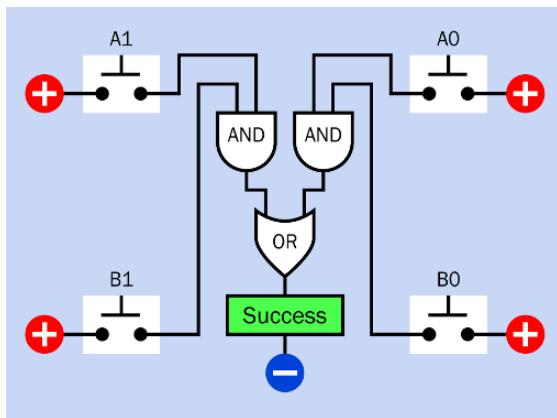
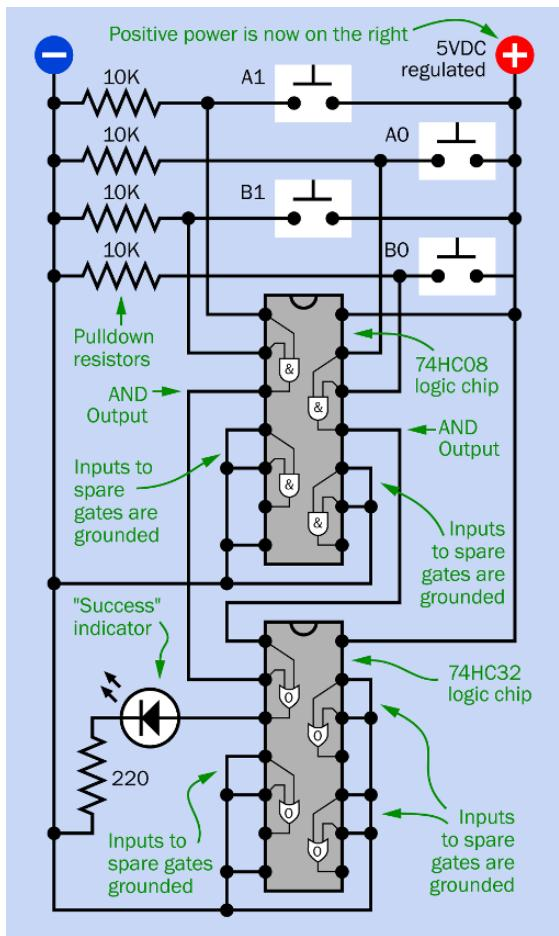

Figure 15-2. These logic gates will activate a "success" indicator if A0 and B0 are both pressed, or if A1 and B1 are both pressed.
Figure 15-8. This schematic shows the simplest breadboardable version of the ESP test.
Figure 15-2 shows how AND and OR logic gates can be used with the pushbuttons to confirm that a trial has been successful.
- A logic diagram is not the same as a component schematic. In a logic diagram, such as the one shown in Figure 15-2, power supplies to logic gates are not usually shown, and pullup or pulldown resistors are also omitted. In a component schematic, chips with pin connections are shown instead of logic gates, and all necessary power connections are included.
The concept of Figure 15-2 is very simple. It can be summarized in this sentence:
The schematic that corresponds with the logic diagram in Figure 15-2 is shown in Figure 15-8. I have squeezed some miniature representations of the gates into the chips to show what's going on. “&” denotes an AND gate, while “O” is an OR gate. (These are not standardized abbreviations.)
Figure 16-1 translates these two sentences into a logic diagram. For the sake of clarity, I have shown this separately from the previous logic diagram in Figure 15-2. However, the two diagrams could be combined, as shown in Figure 16-2, because you can take the output from a single pushbutton and share it among two or more logic inputs. (In Figure 16-2 I have showed the connections from Figure 15-2 in gray, to distinguish them from the new connections.)
Would you like to add this functionality to the breadboarded circuit in Figure 15-8? You may have noticed that there were several gates in the chips in that schematic that were not being used. Because every gate operates independently of the others in a multigate chip, we could make use of unused gates to provide the initial features that I have described above. For instance, the “ready” test requires just two OR gates, and there are three OR gates inside the 74HC32 chip that are not being used.